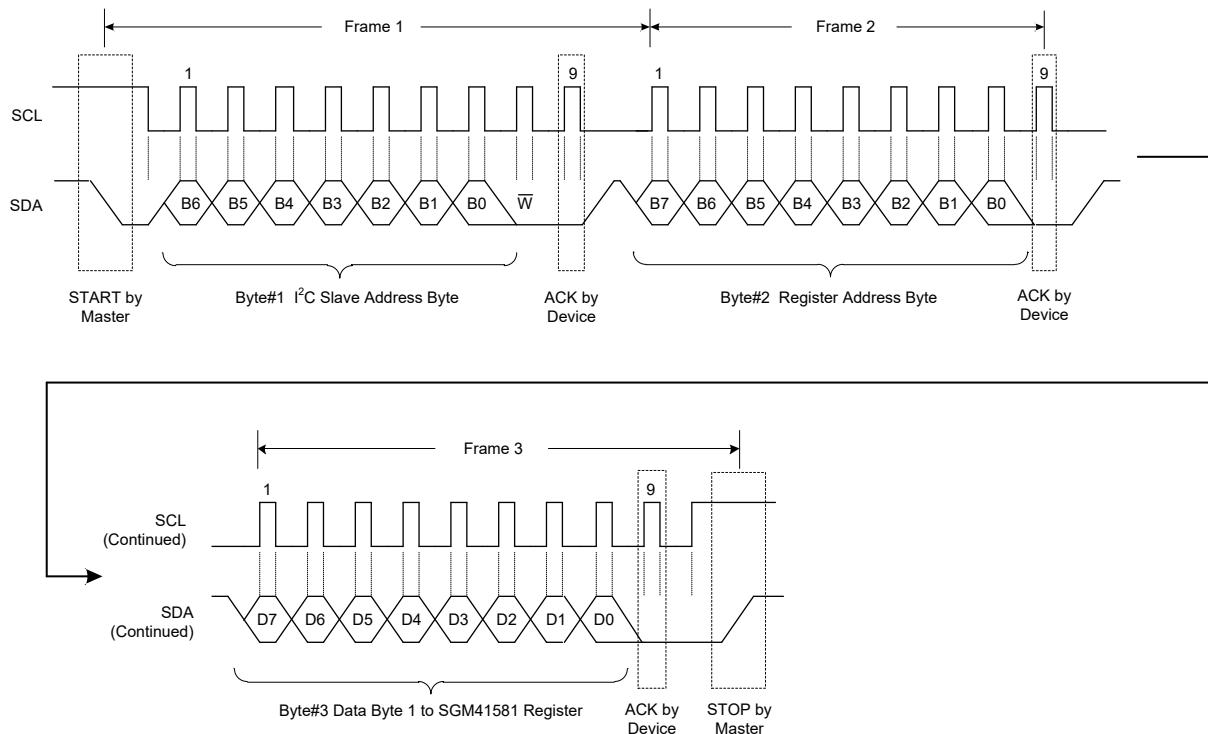

Figure 13. A Single Write Transaction
**WRITE:** If the master wants to write in the register, the third byte can be written directly as shown in Figure 13 for a single write data transfer. After receiving the ACK, master may issue a STOP condition to end the transaction or send the next register data, which will be written to the next address in a slave as multi-write. A STOP is needed after sending the last data.